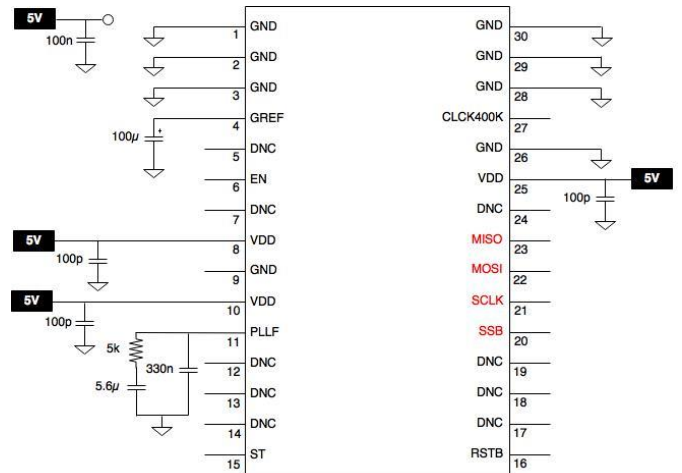

Figure 17: Recommended Application Schematic (top view)
- All capacitances of Figure 17 should be placed as close as possible to their corresponding pins, except the 100nF capacitance between VDD and GND, which should be as close as possible to the board's supply input.
| PLLF | 11 | Analog | Output | 0.8V | External filtering pad. MUST be connected to a filtering stage, described in Figure 17. |